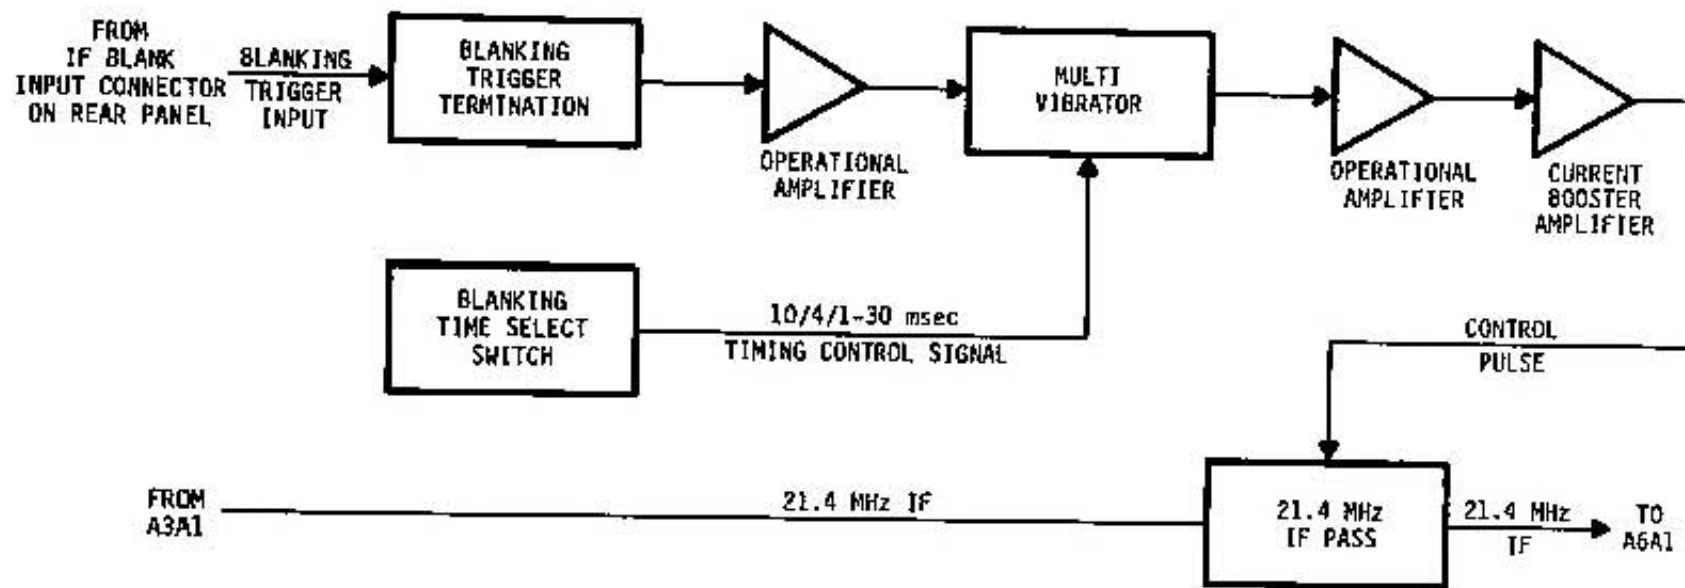

Figure 2. IF Blanker (All) Functional Block Diagram
26. IF Blanker Circuit Card Assembly (A11). As shown in Figure 2, the IF blanker circuit consists of seven circuits which include; a blanking trigger termination circuit, a voltage comparator, a multivibrator, an output operational amplifier, a buffer amplifier/current booster, a blanking time select switch, and a 21.4 MHz IF pass circuit. The blanking trigger input is applied to J1, where switch SW1, when physically activated, provides the